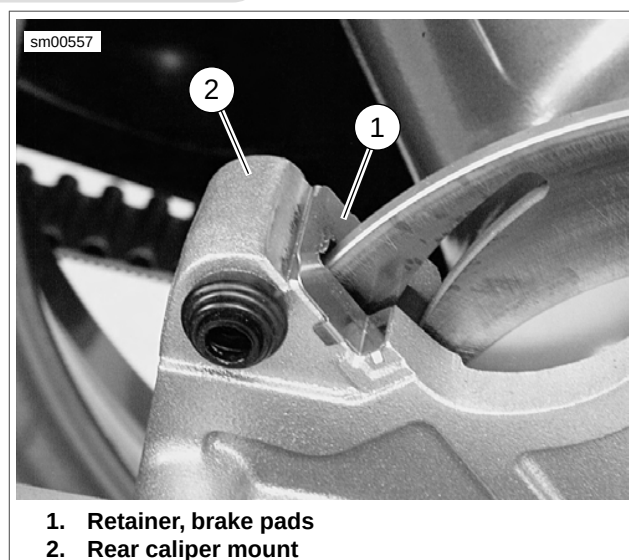

Figure 2-68. Retainer, Brake Pads
See Figure 2-68. Always make sure brake pad retainer is in place on caliper mount before installing pads and caliper.
1. See Figure 2-68. Install brake pad retainer (1) if removed.